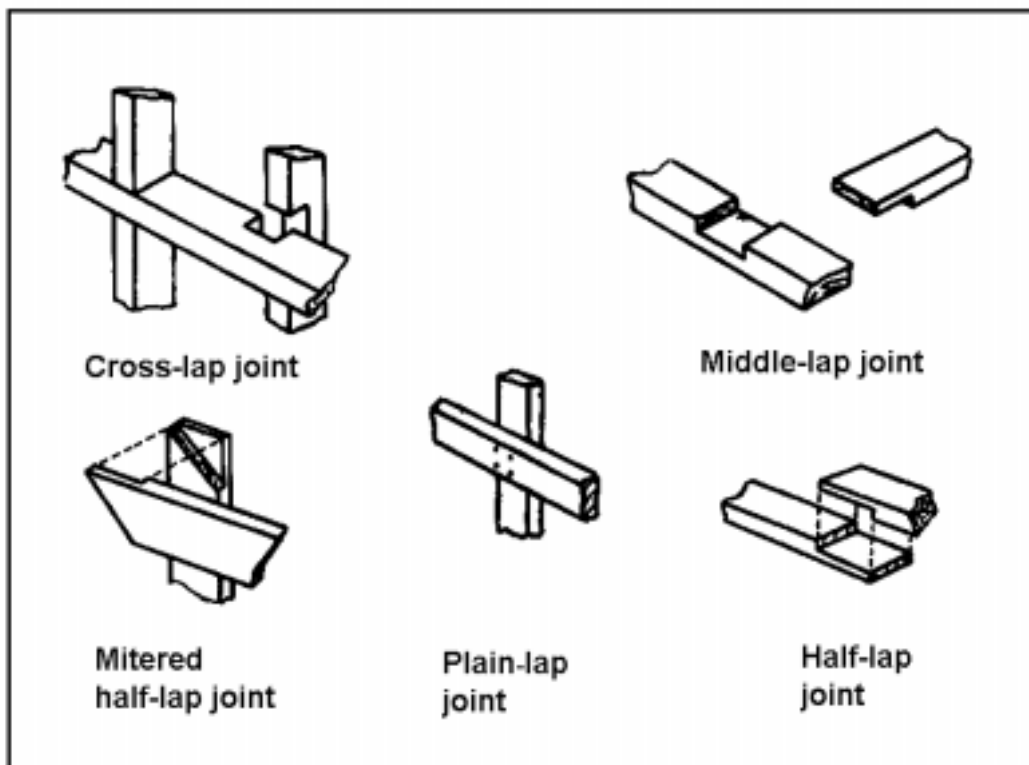

Figure 051-236-1173-2
- c. Miter butt. This joint is formed by bringing the two mitered ends of the boards together to form a desired angle and is normally used at corners (Figure 051-236-1173-1).
- e. Half lap. This joint is formed by cutting away equal-length portions (usually half) from the thickness of two boards. The two are then joined so they overlap and form a corner (Figure 051-236-1173-2).